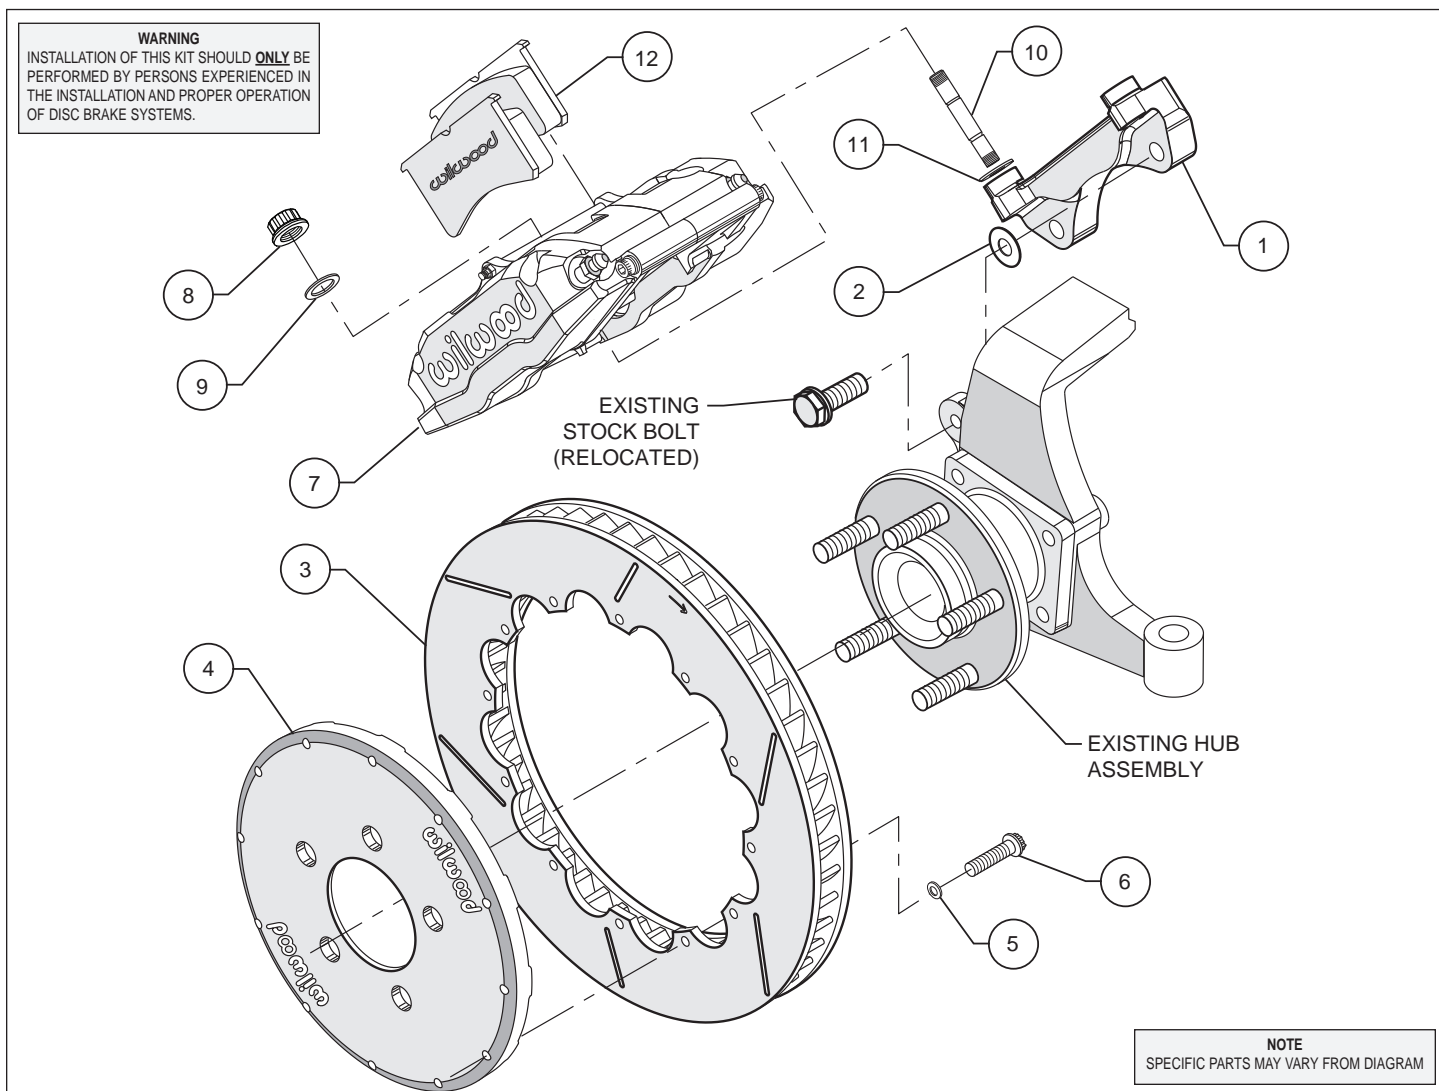
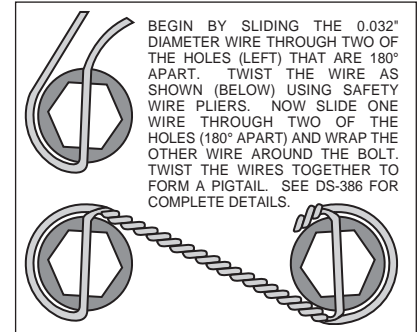

Figure 1. Typical Installation Configuration
Figure 3. Safety Wire Diagram
- The caliper mount bracket assembly (1) should be installed first with clean, dry threads on the mounting bolts. Install the bracket using the original caliper mount bolts. The bolts will now pass through the spindle from the opposite direction that they were removed (see figure 1). The bracket must tighten squarely against the inboard side of the caliper mount bosses on the spindle body. Inspect for interference from casting irregularities, machining ridges, burrs, etc. Use one thin shim (2) between the bracket and spindle during initial trial fitting. Later, after the caliper, pad, and rotor alignment has been checked, and any necessary shims have been put in place, the mount bolts should be coated with red *Loctite*® 271 and torqued to 65 ft-lbs.
- Assemble the rotor (3) to the hat (4) with the bolts (6) and washers (5) provided in the configuration pictured in Figure 1. Be sure all bolts thread in smoothly and are snug. Using an alternating sequence, apply red *Loctite*® 271 to the threads and torque bolts to 155 **in-lb**. For an added measure of security, the bolts may be safety wired using standard 0.032 inch diameter stainless steel safety wire as shown in Figure 3. Please refer to Wilwood's data sheet DS-386 (available at www.wilwood.com/Pdf/DataSheets/ds386.pdf) for complete safety wire installation instructions.